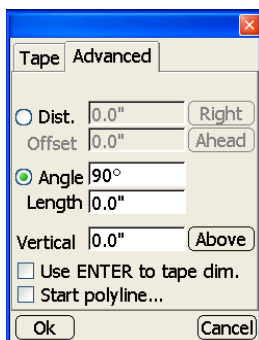

Figure 6-14. Advanced Tab
8. Tap the *Advanced* tab and enter a distance or angle to measure the tape dimension. If needed, enter a vertical height above/below the measurement (Figure 6-14 on page 6-12).